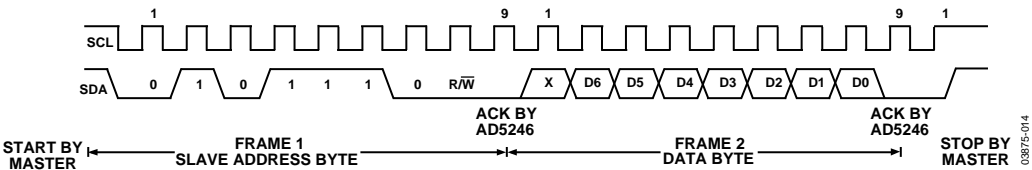
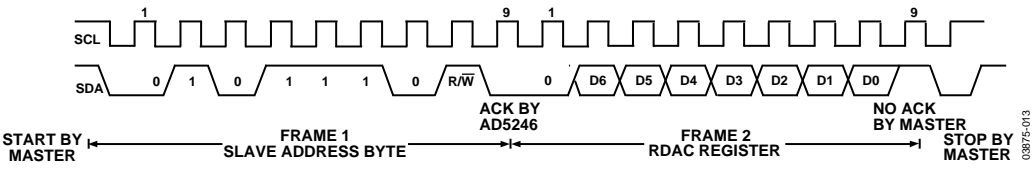

Figure 27. Writing to the RDAC Register
Figure 28. Reading from the RDAC Register
1. The master initiates data transfer by establishing a START condition, which is when a high-to-low transition on the SDA line occurs while SCL is high (see Figure 27). The following byte is the slave address byte, which consists of the 7-bit slave address followed by an $\overline{\text{R/W}}$ bit (this bit determines whether data will be read from or written to the slave device).
3. In read mode, after acknowledgement of the slave address byte, data is received over the serial bus in sequences of nine clock pulses (a slight difference from the write mode where eight data bits are followed by an acknowledge bit). Similarly, the transitions on the SDA line must occur during the low period of SCL and remain stable during the high period of SCL (see Figure 28).
4. When all data bits have been read or written, a STOP condition is established by the master. A STOP condition is defined as a low-to-high transition on the SDA line while SCL is high. In write mode, the master pulls the SDA line high during the tenth clock pulse to establish a STOP condition (see Figure 27). In read mode, the master issues a No Acknowledge for the ninth clock pulse (that is, the SDA line remains high). The master then brings the SDA line low before the tenth clock pulse, which goes high to establish a STOP condition (see Figure 28).